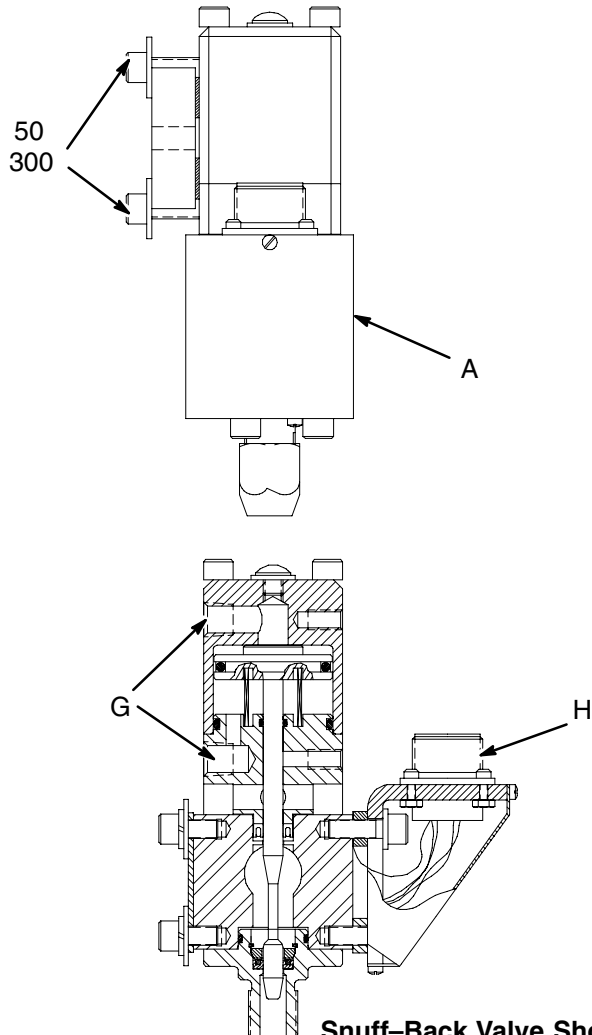

Fig. 8
2. Disconnect the cable plug from receptacle on dispense valve (H). See Fig. 8 on page 13.
3. Disconnect air lines from dispense valve air ports (G).
4. Disconnect material hose from material inlet port (A).
Reconnect the automatic dispense valve to its mounting bracket. See Fig. 8.